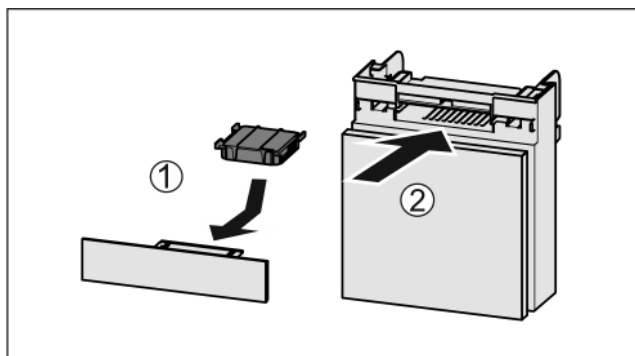

Fig. 138
- Insert the carbon filter as shown in the diagram *Fig. 138 (1)*.
- Push the compartment in *Fig. 138 (2)*.